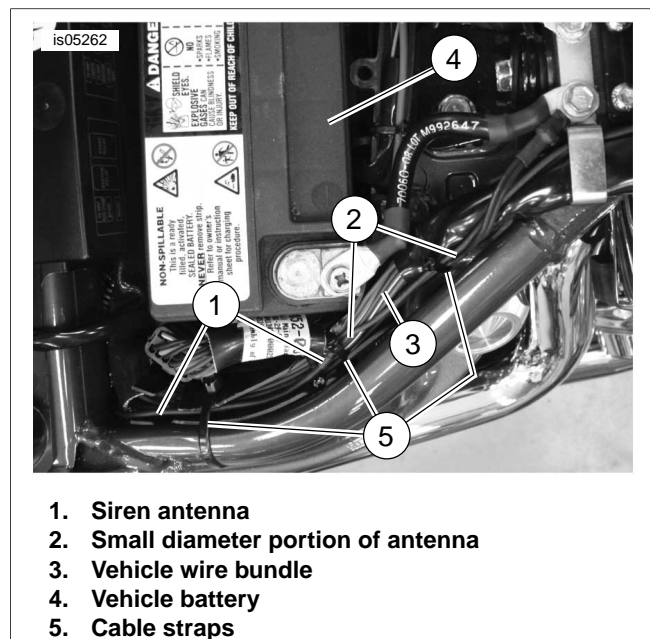

Figure 23. Siren Antenna Mounting (FXCW/C Models)
6. See Figure 23. Route the siren pager antenna (1) upward to the rear of the siren box. Route forward following the path of the wire bundle (3) along the right side of the vehicle battery (4).